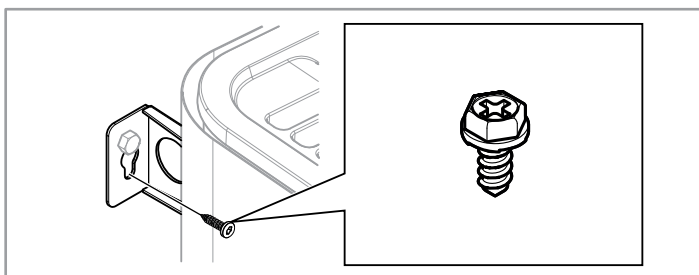

Figure 15: Lock screw for bracket
10. Lock the heater into place with the lock screw see Fig. 15.